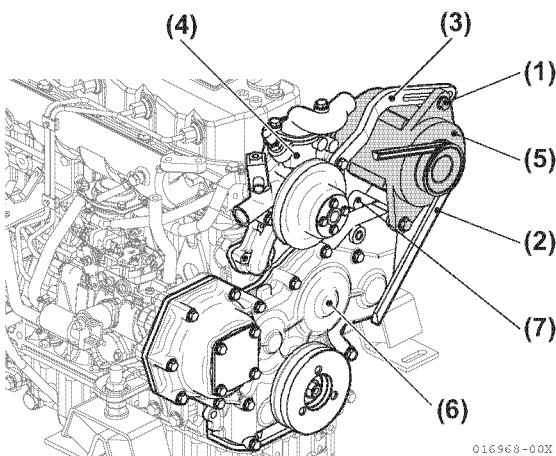

Figure 5-188
- Adjust V-belt tension with the adjuster, and tighten the mounting bolts (Figure 5-188).